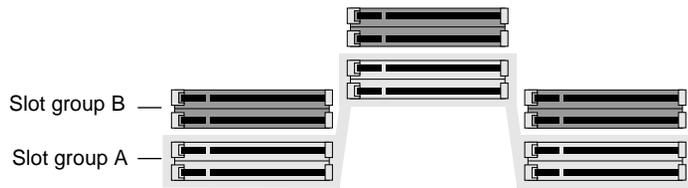

Figure 3-5 Identifying the DIMM Slot Groups
5. Identify the DIMM slot groups, as shown in Figure 3-5. The slot groups—A and B—are split across three vertical rows, with two slots in each row.